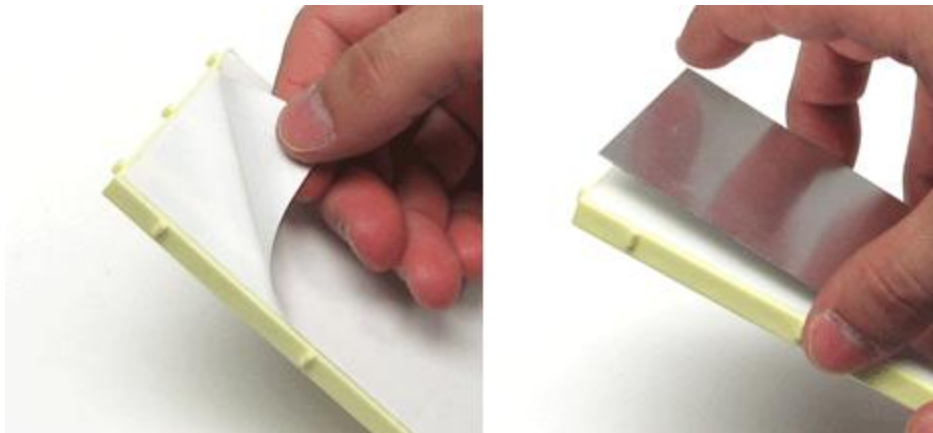

Figure 8. Peeling the backing from the breadboard and applying the metal plate.
1. Peel the backing from the breadboard, leaving the sticky foam layer in place, as shown in the video on in Figure 8.
2. Apply the metal plate to the bottom of the breadboard, as shown in the video and in Figure 8.